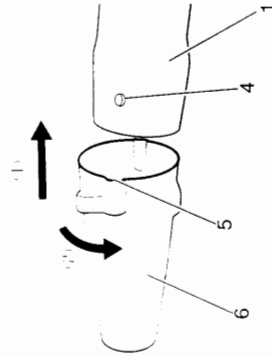

Fig. 2
**Conic pipe to straight pipe (Fig. 2)**